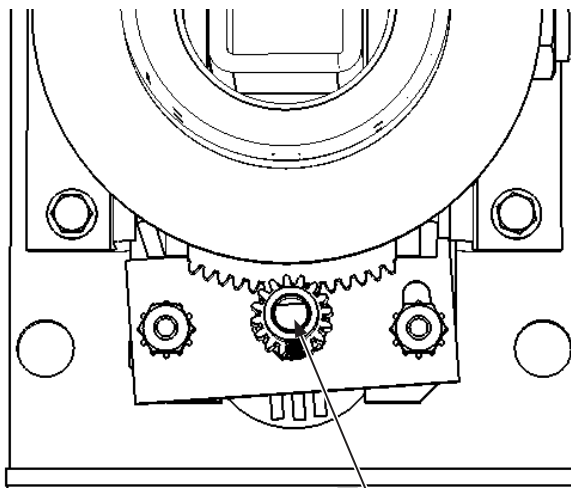

FIG. 11-2b X Axis (Left and Right) Volume
- 3 Loosen the (2) hex nut from the volume pot bracket.
- 4** With the Control Unit's pointing to the centre of the screen, make sure that the D-Cut in the Volume pot is positioned as it is in FIG 11-2b